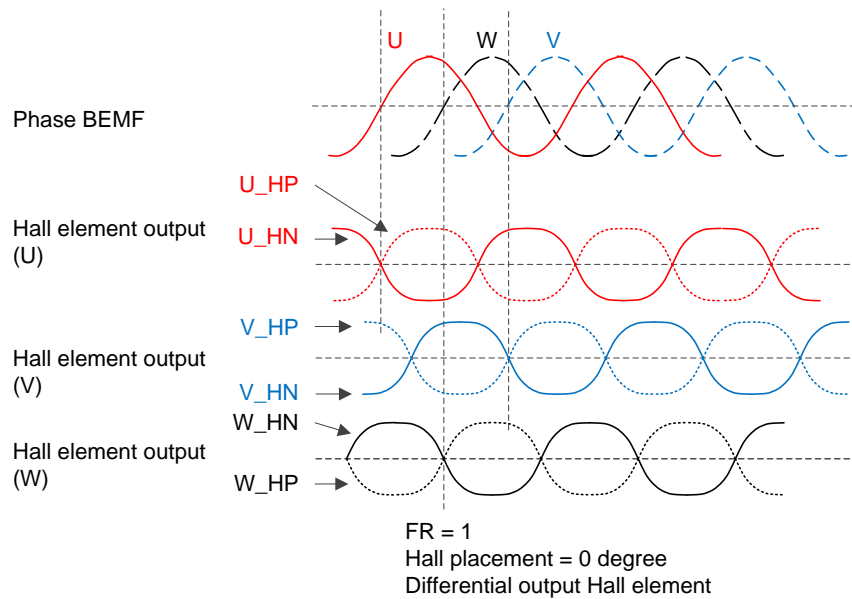
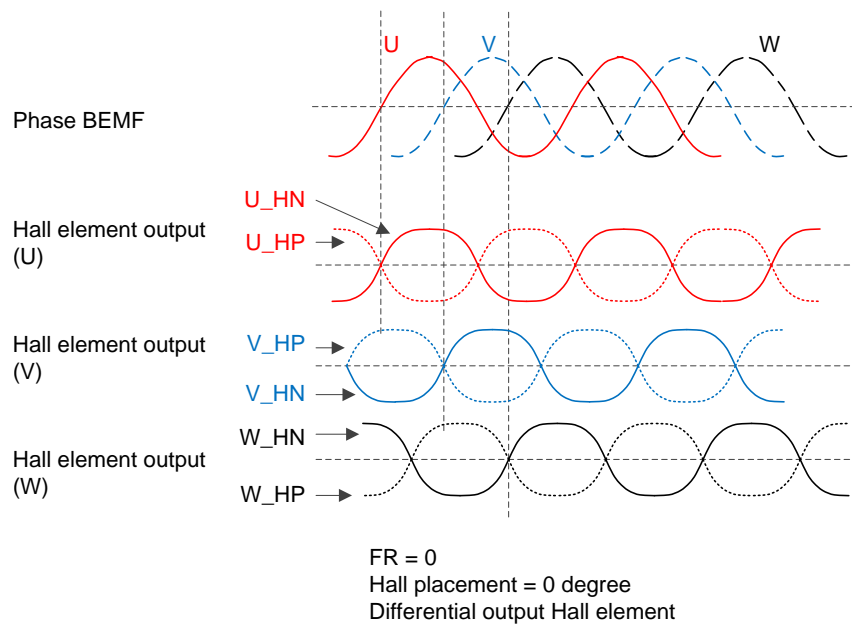
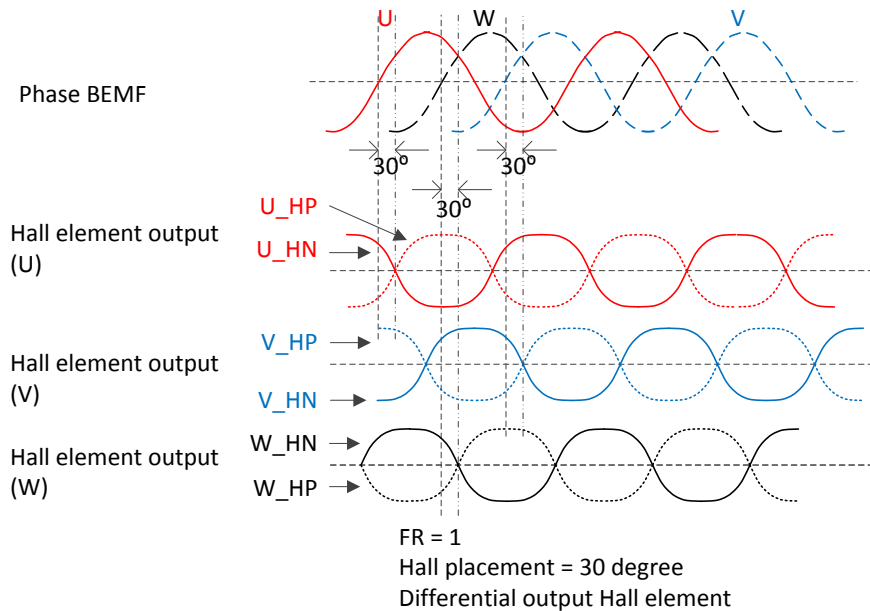
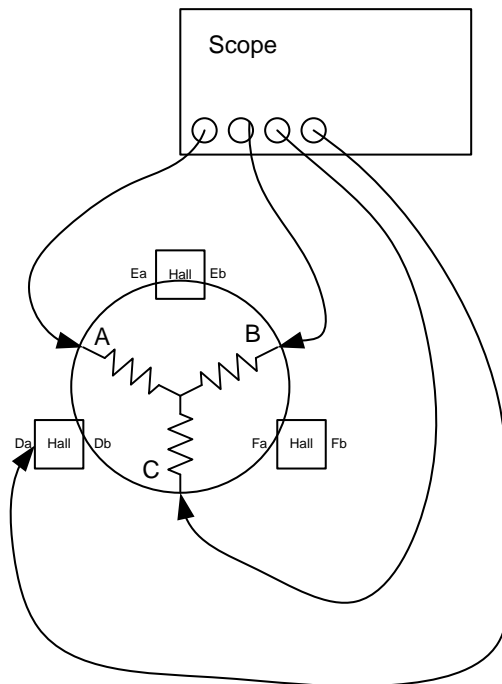

Figure 24. Correspondence Between Motor BEMF and Hall Signal (FR = 1, 0° Placement)
Figure 25. Correspondence Between Motor BEMF and Hall Signal (FR = 0, 0° Placement)
Figure 26. Correspondence Between Motor BEMF and Hall Signal (FR = 1, 30° Placement)
Figure 30. Motor Measurement
1. Phase U is leading phase W by 120°, phase W is leading phase V by 120°. The Hall signal positive output is aligned with respective phase BEMF. Choose FR = 1 and 0° placement option (see Figure 24).
2. Phase U is leading phase V by 120°, phase V is leading phase W by 120°. The Hall signal positive output is aligned with respective phase BEMF in the opposite direction. Choose FR = 0 and 0° placement option (see Figure 25).
3. Phase U is leading phase W by 120°, phase W is leading phase V by 120°. The Hall signal positive output is 30° lagging of respective phase BEMF. Choose FR = 1 and 30° placement option (see Figure 26).
5. Use 4 channel Scope to observe signals. Connect probe -1, 2, 3 to A, B, C terminals of the motor (phases), probe-4 connects to Hall Da (or D). Name the probe 1 (terminal-A) as U-phase. (see Figure 30)
6. Turn the rotor manually in clock-wise direction. If the waveform on probe-1 (U-phase) is leading probe-2 (terminal-B) by 120°, name the terminal-B as phase W and terminal-C as phase V. Else if waveform on the probe-2 is leading probe 1 (U) by 120°, terminal-B as V, terminal-C as W. At this stage all three phases of the motor are identified.
9. After phase UVW and Hall UVW positive negative are identified, manually rotate the motor again, check if the result matches Figure 24 and Figure 25 (0° placement) or Figure 26 and Figure 25 (30° placement).